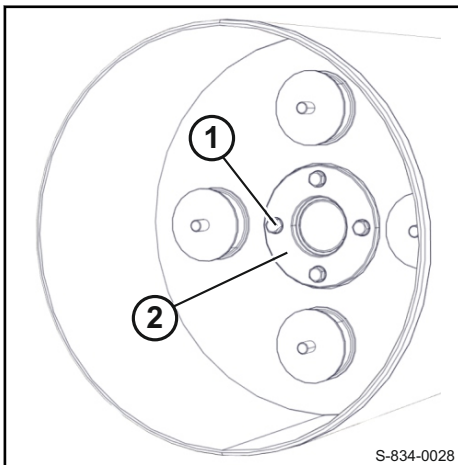

Fig. 232
8. Unscrew hexagon screws 1 ↪ Fig. 232.
9. Remove the flange (2).